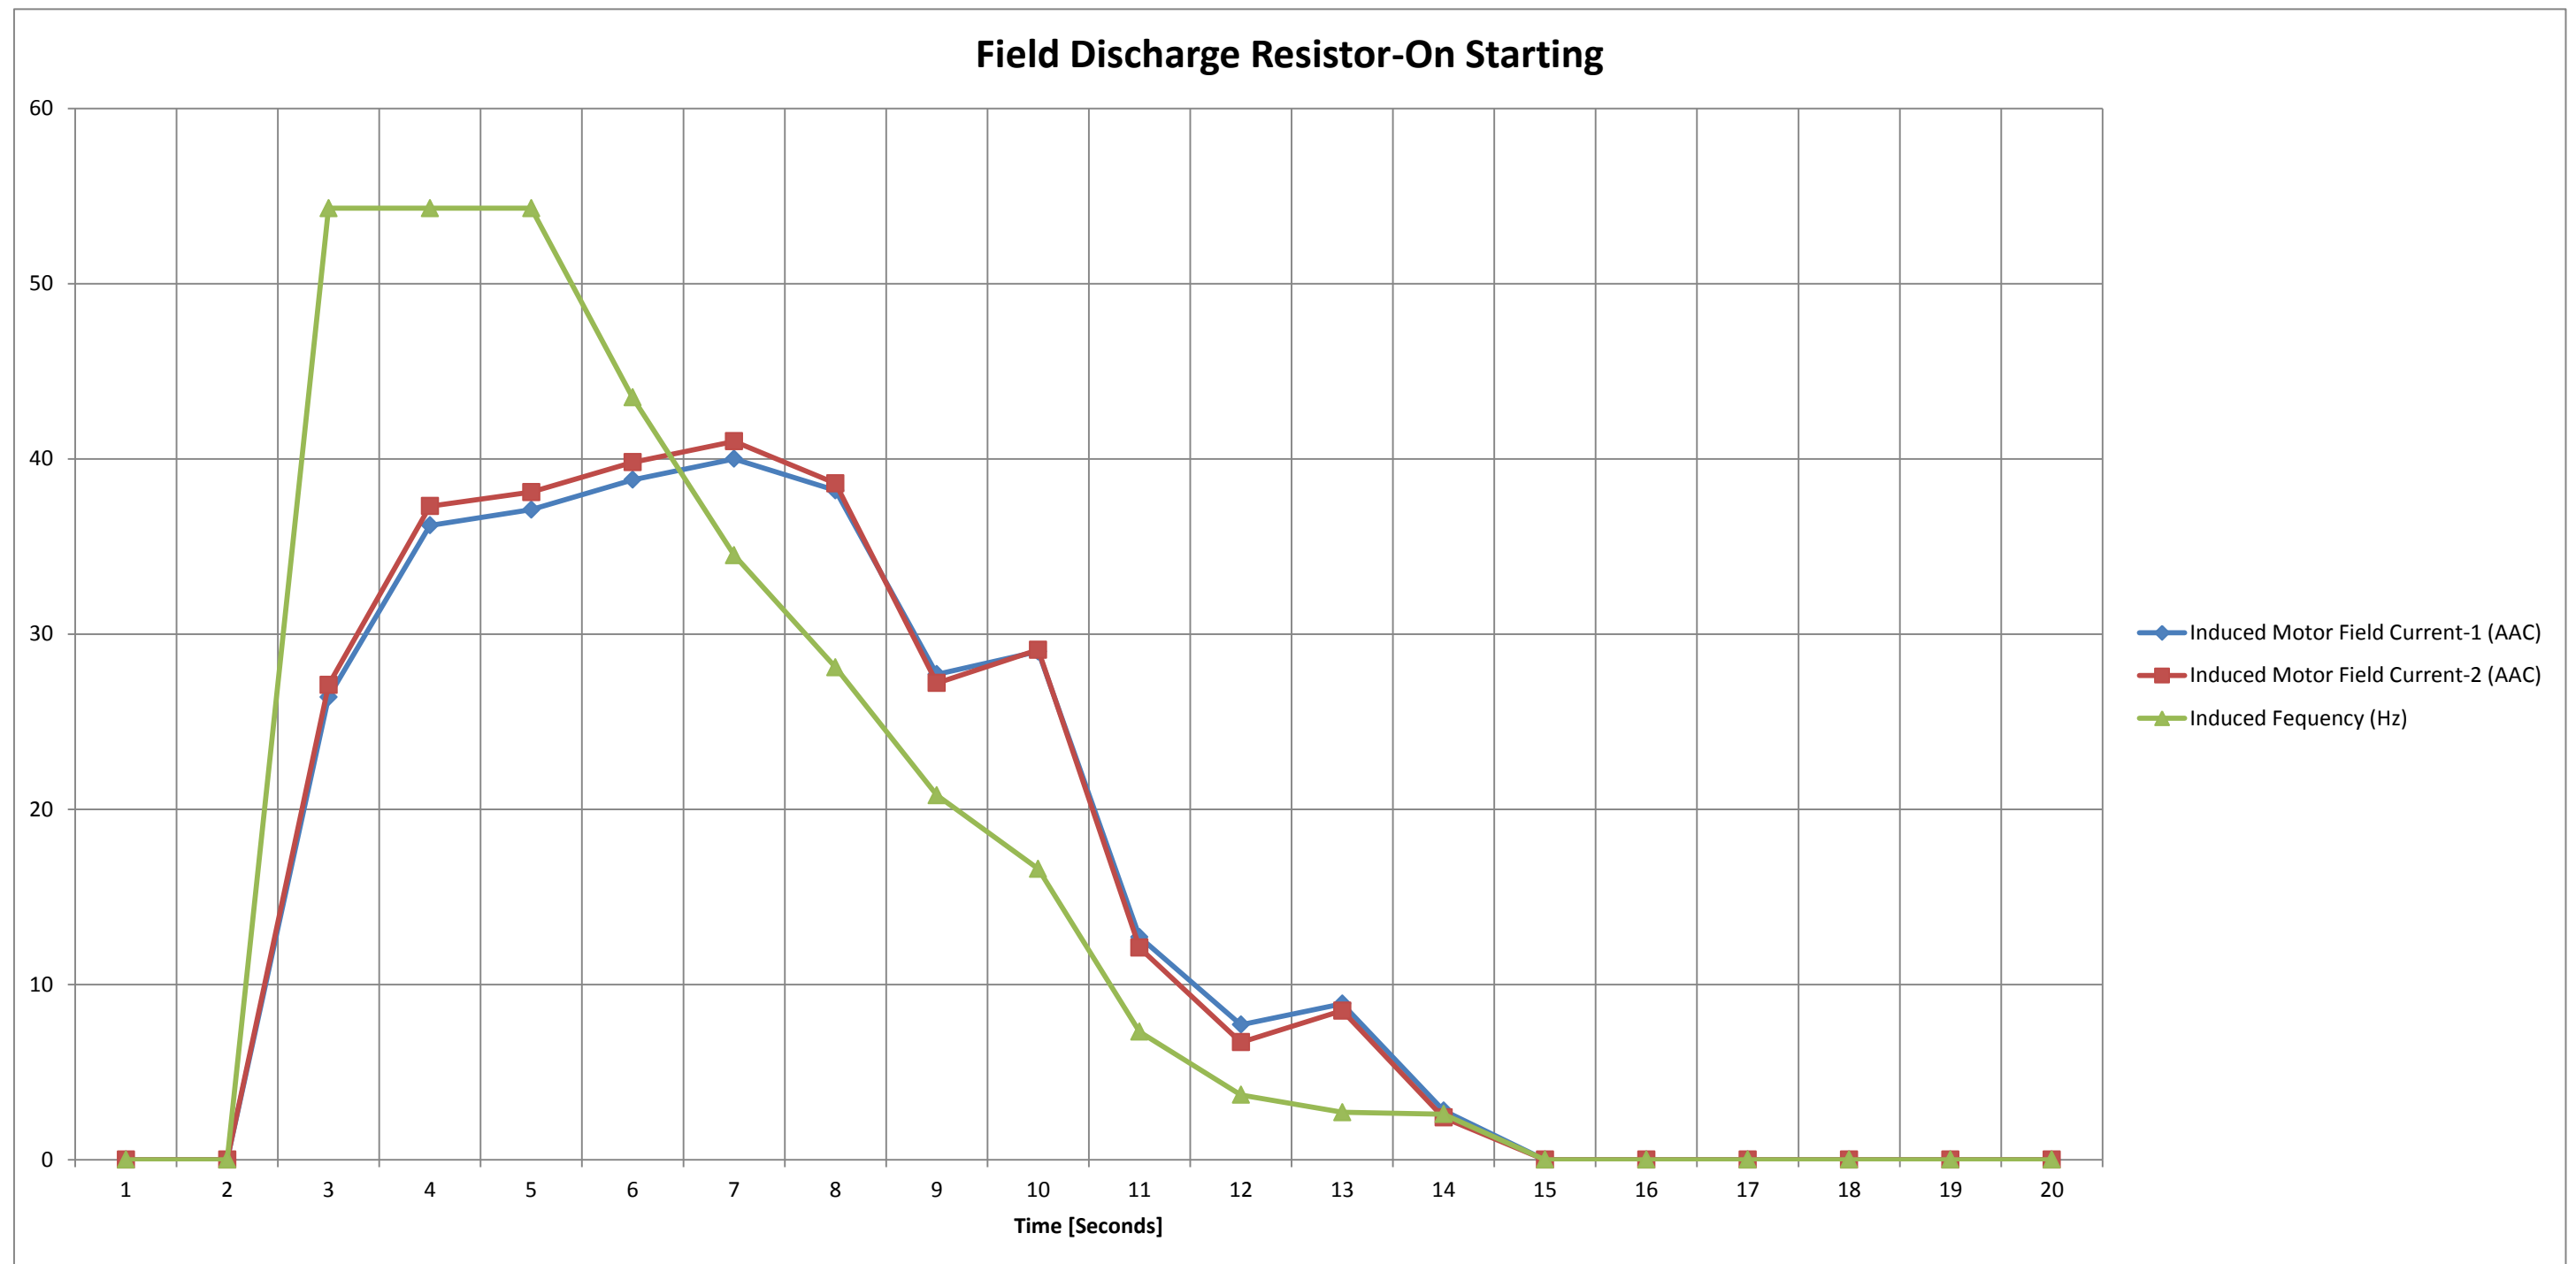

Figure 17- Field Discharge Resistor-On Starting
6. The synchronization slip setting has been set to 5%. This is based off the data gathered from a typical motor start where the last data point before the field contactor closed showed an induced frequency of 2.6 Hz or 4.33% slip. Refer to Figure 17.